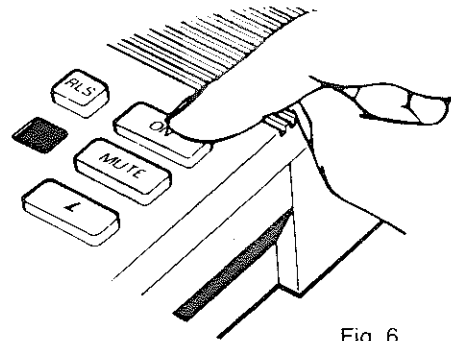

Fig. 6
2. On Button. Pressing the On button activates the unit. When operated (Fig. 6), dial tone is heard and the red LED indicator lights.